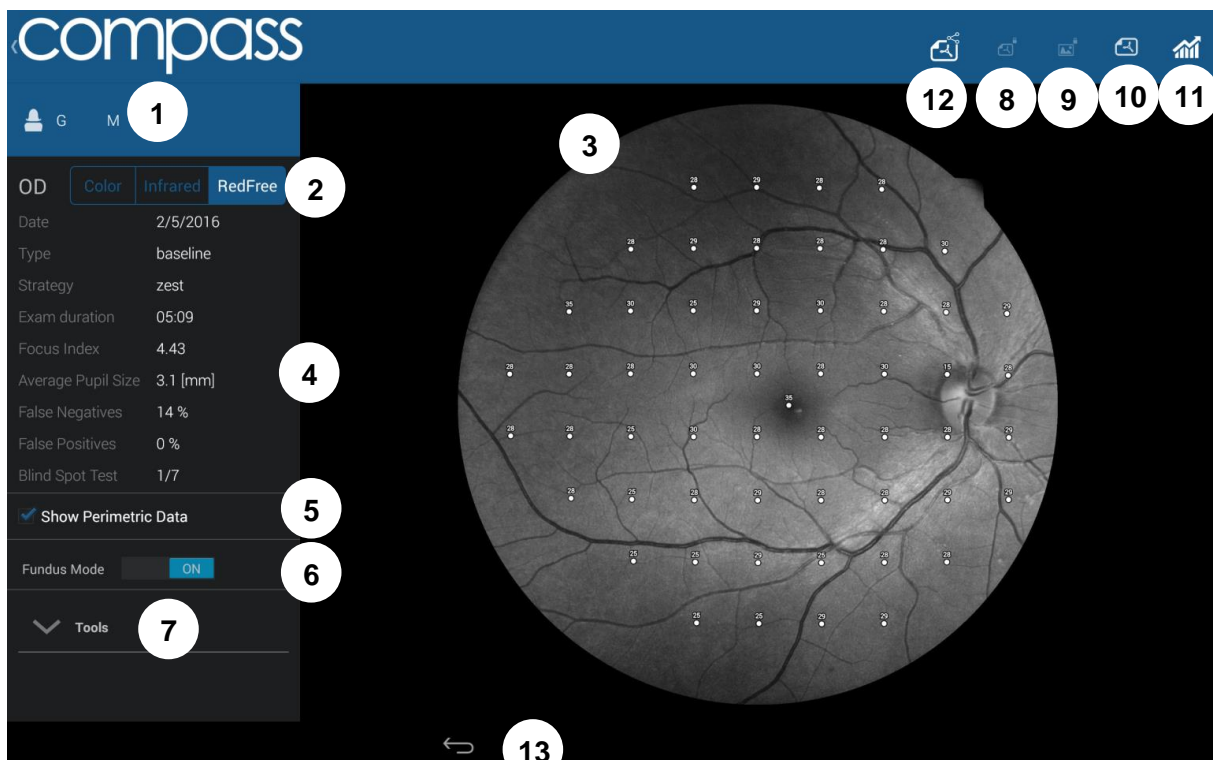

Fig. 21 – Exam review screen, red-free display modality
5. open Exam Review screen (see Fig. 21)
The **Exam Review** screen (Fig. 21) provides the following information and functions: